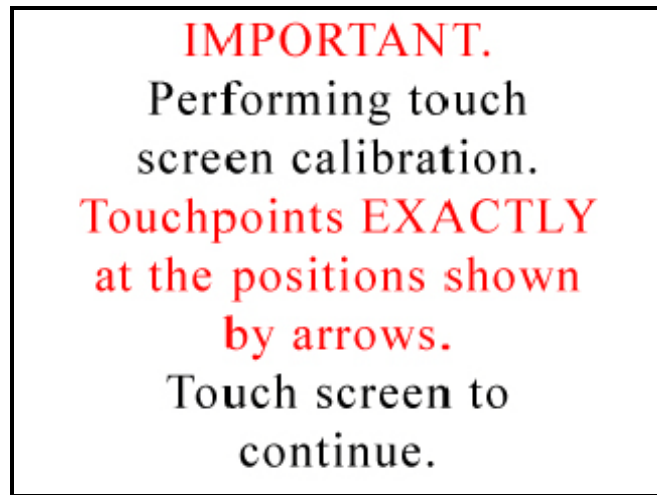

Figure 4-30 Alignment Step 1
- The following screen appears. Touch the circle in the lower left corner as shown in Figure 4-30.